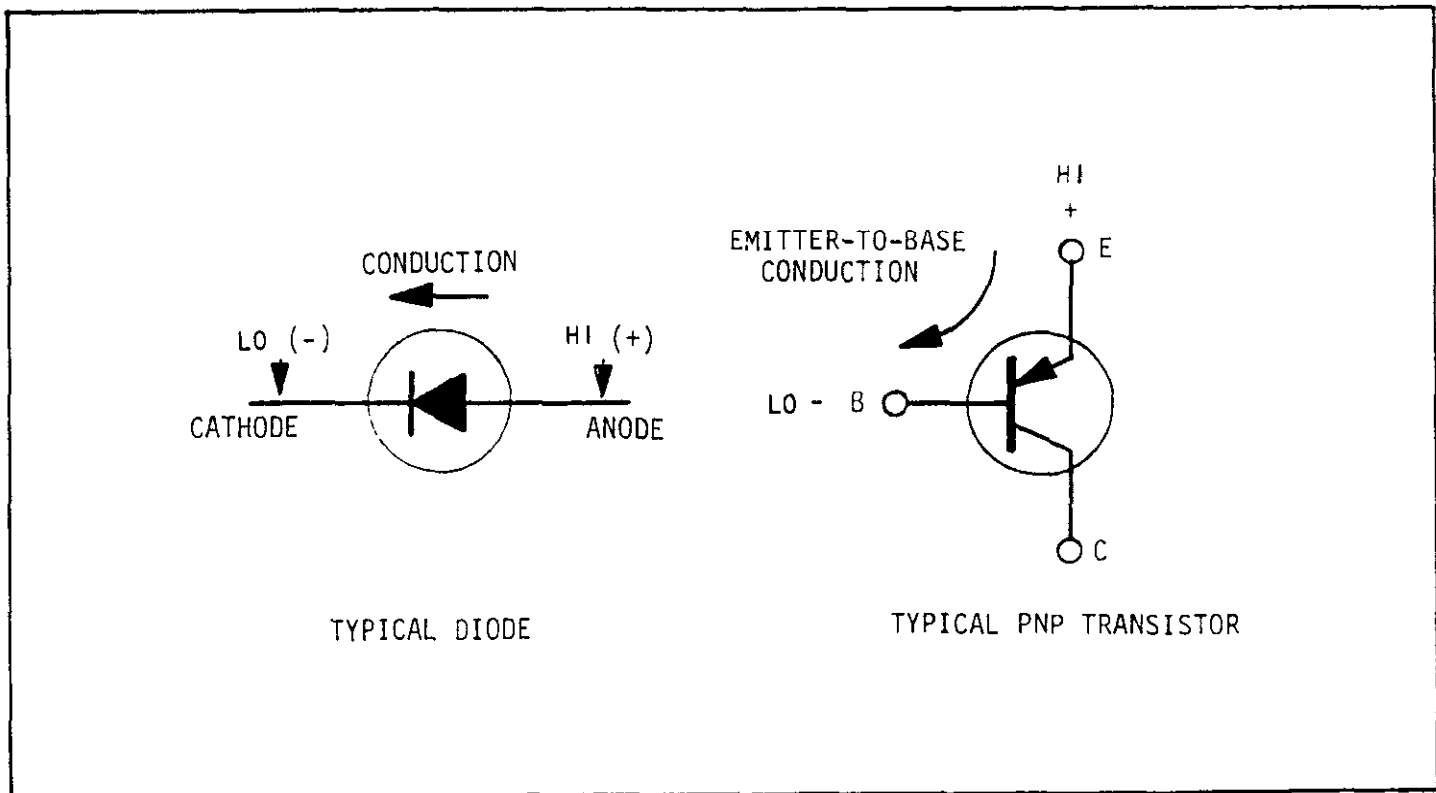

FIGURE 3-6. Semiconductor Diode and Transistor Testing.
5. Semiconductor Diode and Transistor Testing. The Model 172A/173A can be used to test diodes and transistors to determine the relative condition of the device. For semiconductor diodes, the voltage applied must be sufficient to cause conduction in the forward direction. The "HI OHMS" mode provides a voltage up to 3 volts at a current upto 1 milliampere. Since the HI terminal is positive with respect to LO terminal, connections should be made as shown in Figure 3-6 to cause forward conduction of diodes. Since the maximum current is available on the 3 K Ω range, depress AUTO/MAN (Set to MAN) and manually range to the 3 K Ω range (down-range).